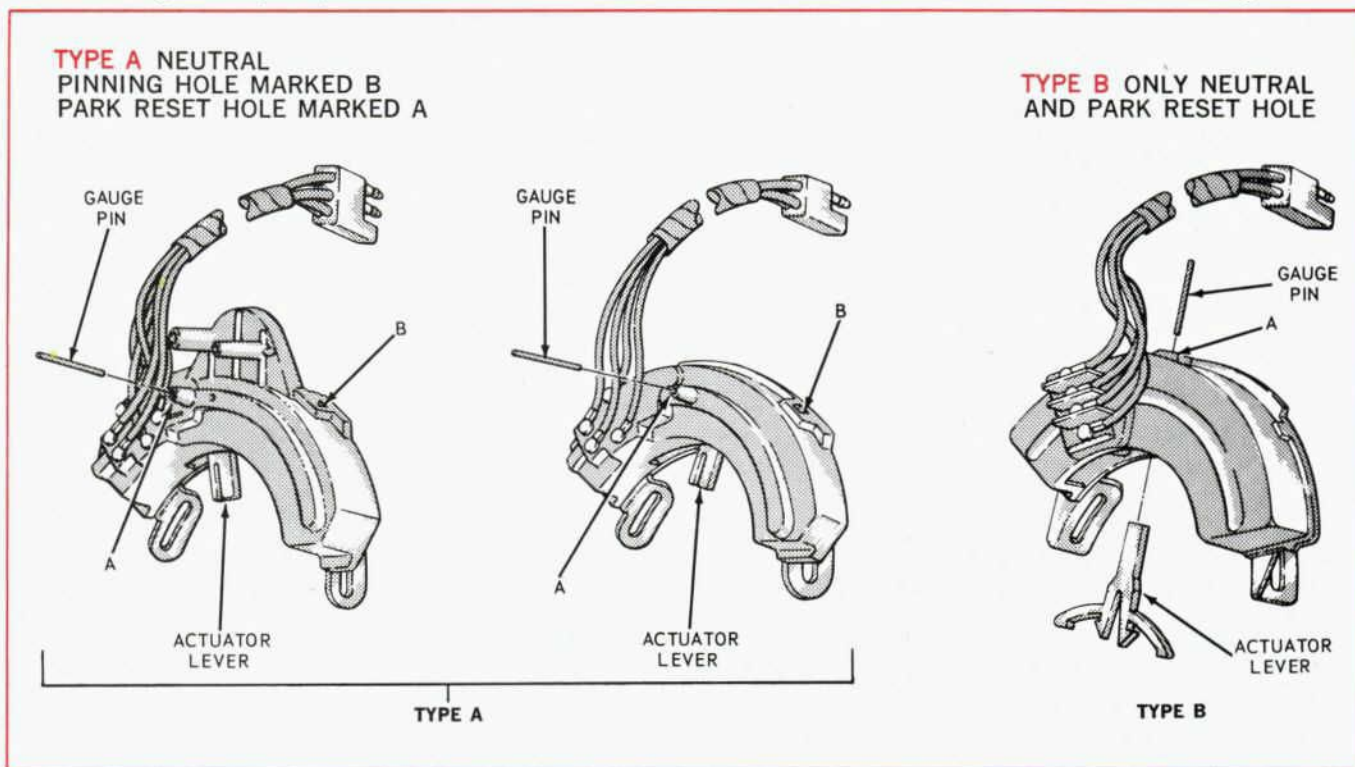

Figure 4—Column Mounted Neutral Start Switches—1968 Vehicles
Figure 4 illustrates the column mounted switches used on 1968 vehicles. "A" switches incorporate an integral actuator lever switch. Some type "A" switches also have connections for cars equipped with vacuum operated parking brake release systems (left-most switch). Type "A" switches make use of two gauge pinning holes (A) for Park and (B) for Neutral. Type "B" switches have a common Park and Neutral gauge pinning hole. Type "B" switches also have a separate actuator lever switch.
<ul style="list-style-type: none"> • Broken or damaged actuator lever 	Replace lever (Type B switch), replace Type A switch (see Figure 4).